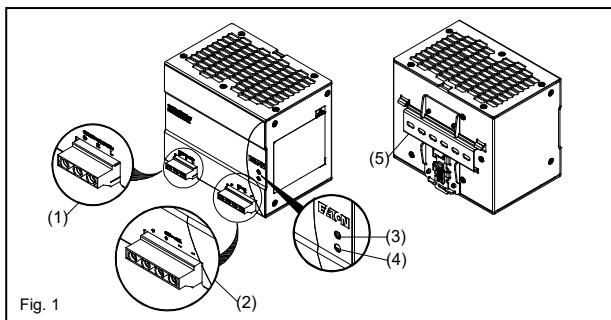
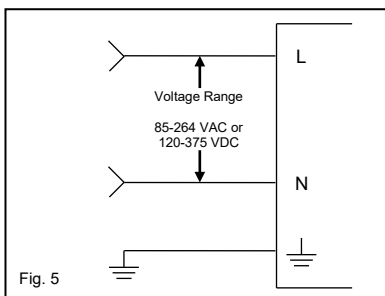

Fig. 1
Fig. 5
2. Device description (Fig. 1)
5.1. Input connection (Fig. 1 (1), Fig. 5)
For AC input connections, use L, N and PE connections of input terminal connector (see Fig. 1 (1)) to establish the 100-240 VAC connection.
5.2. Output connection (Fig. 1 (2))
Use the "+" and "-" screw connections to establish the 24 VDC connection. The output provides 24 VDC. The output voltage can be adjusted from 24 to 28 VDC on the potentiometer (see Fig. 1 (3)). The green LED DC OK displays correct function of the output (Fig. 1 (4)). The device has a short circuit and overload protection and an overvoltage protection limited to 35 VDC.